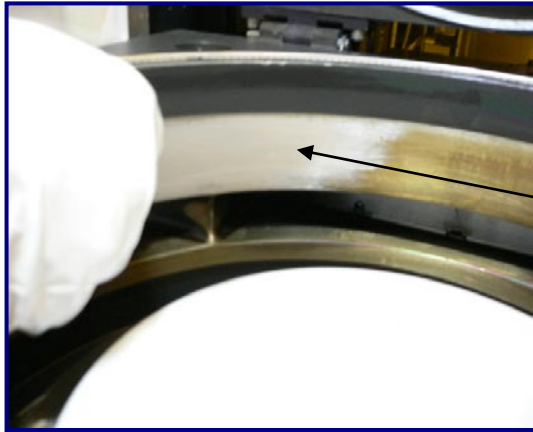

Fig 3: Diamond ScrubPAD removing deposition from ETCH Chamber
Step 6: With dampen UltraSOLV[®] 360 Grit Diamond ScrubPAD, proceed to scrub off deposition from moistened area (See Fig 3)